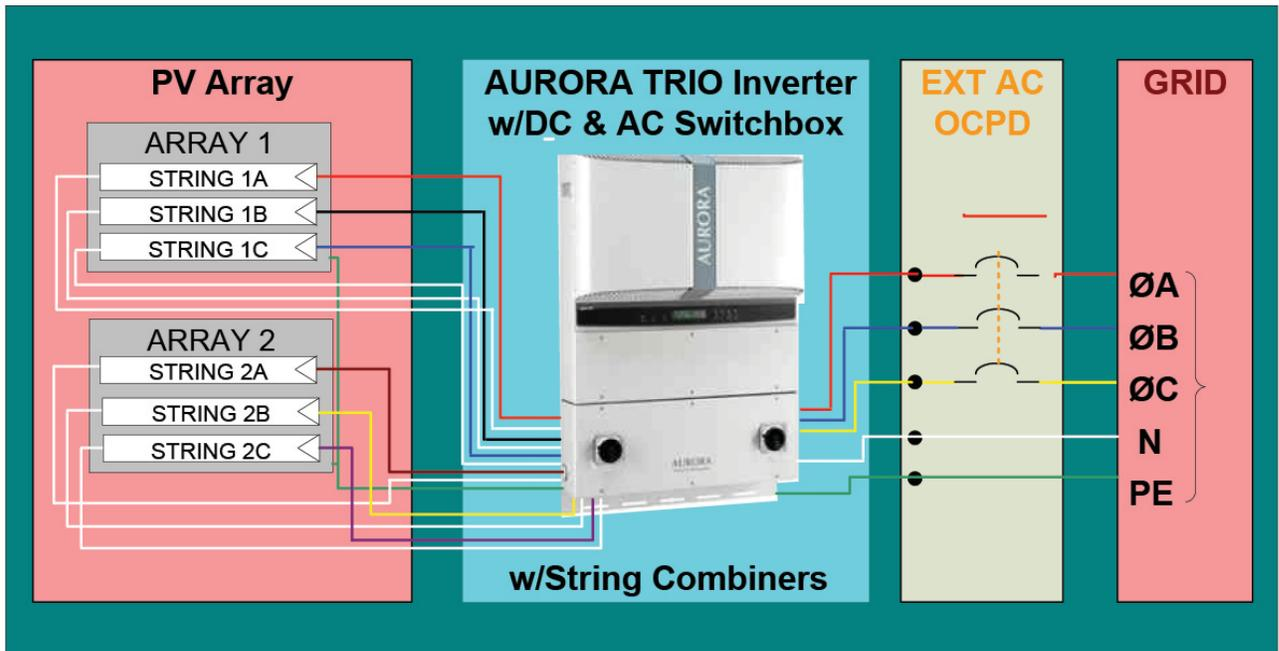

Figure 3.05 - Electrical Connection Diagram PVI-10/12-I-OUTD-S2-US/CAN--XXX With Fuse Holders
- Typical system connection for this inverter is shown in Figure 3.05.